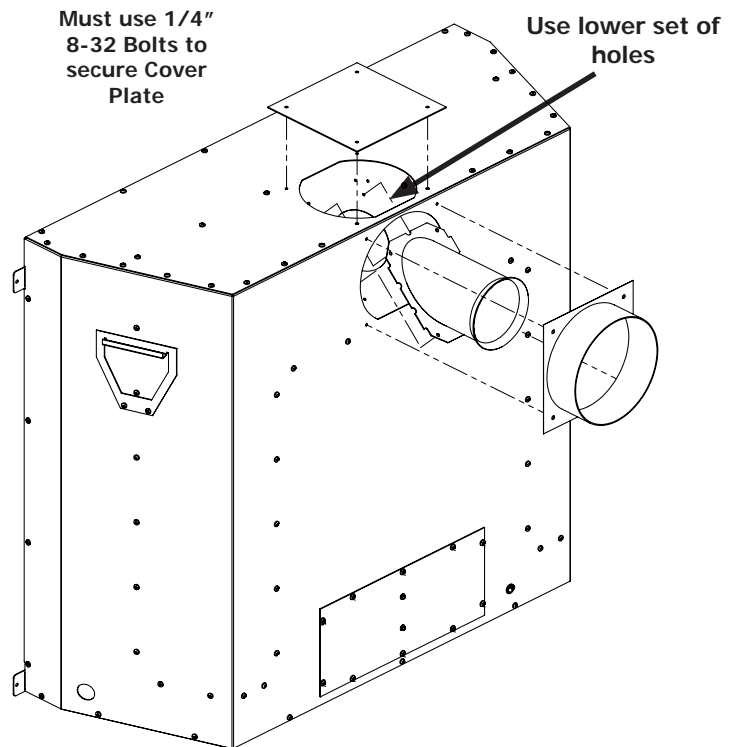

Figure 16. Vent Conversion - Step 2
**Step 2:** Switch the removed parts around as shown in Figure 16 and re-install all 12 screws. Be sure not to damage any gaskets - If damage occurs fully remove the gasket and use high temp silicone as a replacement.